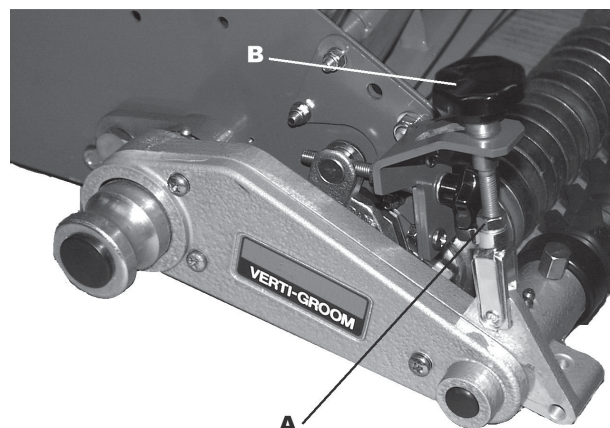

Fig. 9.4
VERTI-GROOM SETTINGS (Fig.9.4)
2. To set the Verti-Groom height use the height of cut setting bar (8.1). Release the lock nuts (A Fig.9.4) and using the handwheels (B Fig.9.4) turn in the desired direction clockwise to raise the Verti-Groom reel, anti-clockwise to lower the Verti-Groom reel. A packer of the required thickness, up to 5mm (3/16in) can be used on the setting bar to obtain the required Verti-Groom reel height.